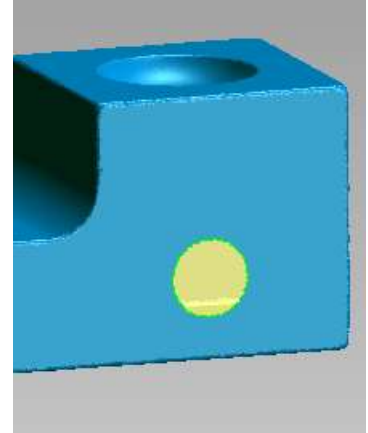

Figure 71
1. **Zoom** and **rotate** to the view shown in **Figure 71**.